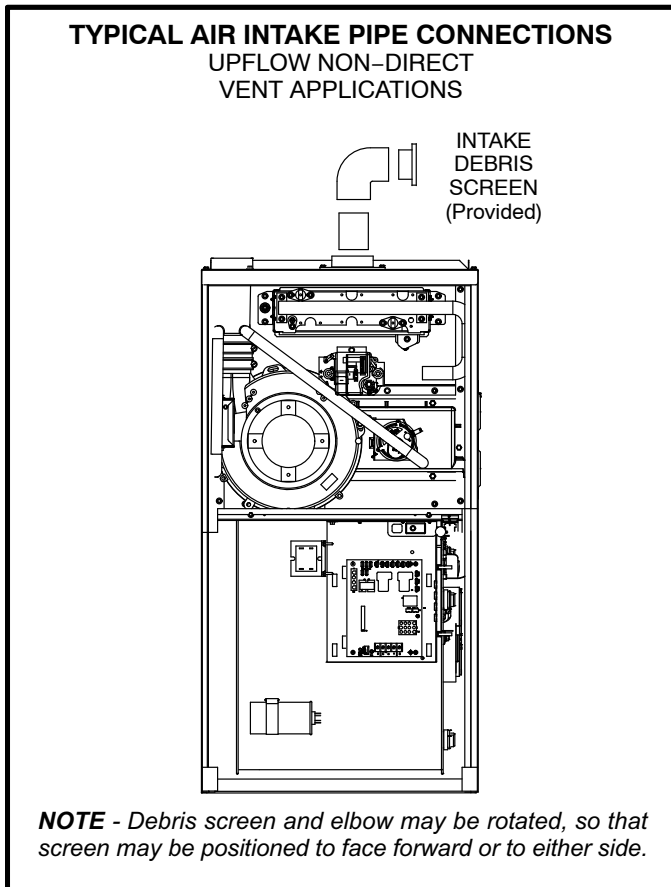

FIGURE 24
- 1 - Use field-provided materials and the factory-provided air intake screen to route the intake piping as shown in figure 24 or 25. Maintain a minimum clearance of 3" (76mm) around the air intake opening. The air intake opening (with the protective screen) should always be directed forward or to either side in the upflow position, and either straight out or downward in the horizontal position.